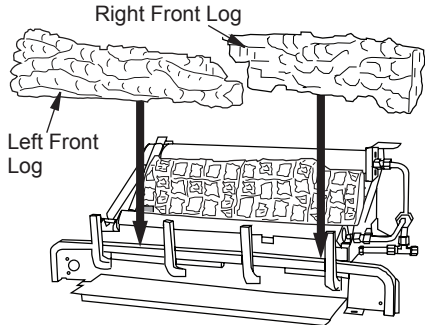

Figure 39 - Installing Left/Right Front Logs
3. Place front left and front right logs as shown in Figure 39.